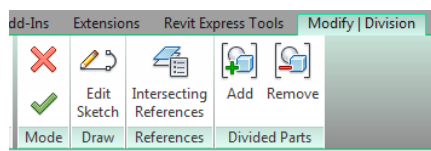

**Figure 28**
13. This will enable the Material setting. Click the Browse icon and choose a new Material (see Figure 28).